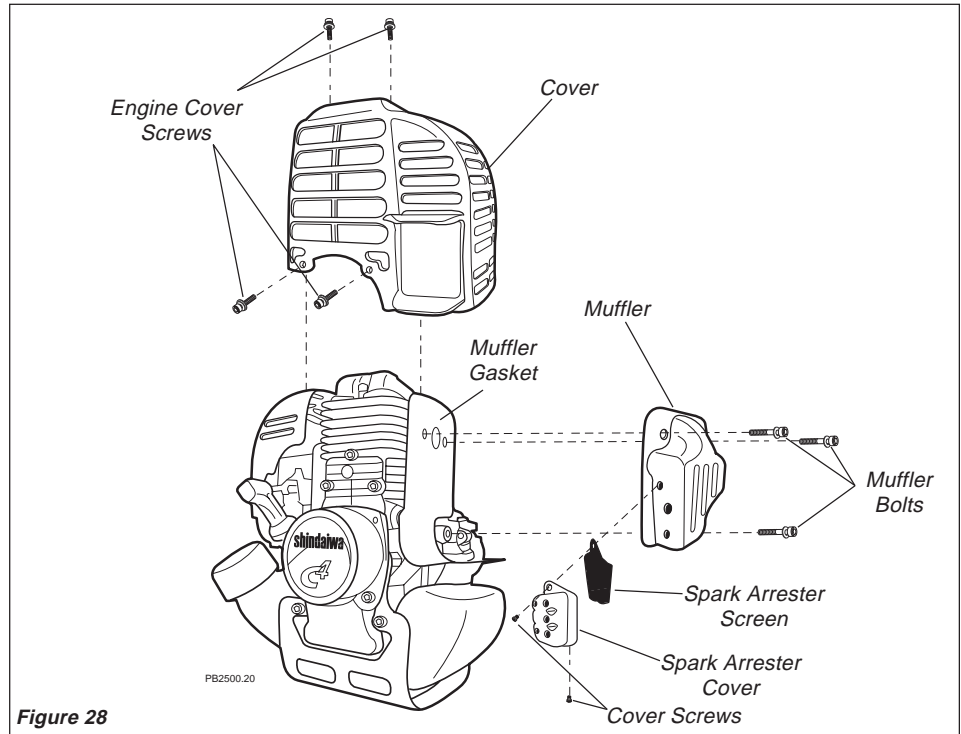

Figure 28
1. With a 3 mm hex wrench remove the 4 engine cover screws and the engine cover. See Figure 28.
2. With a 4 mm hex wrench remove the 3 muffler bolts and the muffler. See Figure 28.
3. With a small flat bladed screwdriver remove the 2 screws holding the spark arrester screen and cover to the muffler. See Figure 28.